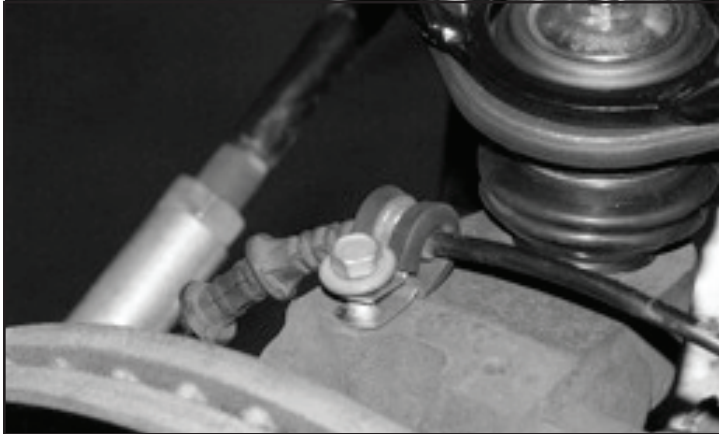

FIGURE 36 - STEP 38
38. Install the FT clamp on top of the spindle to hold the wheel speed sensor wire. **SEE FIGURE 36**